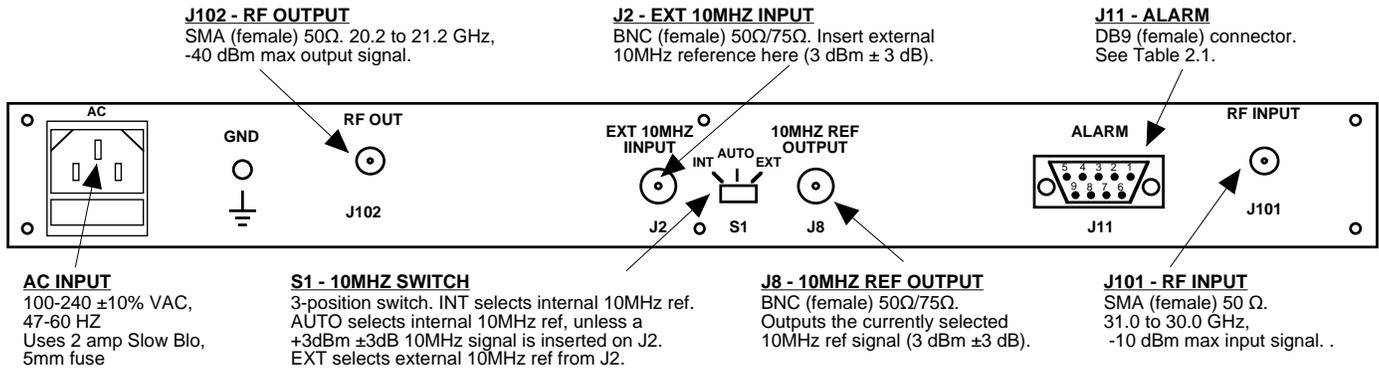

FIGURE 2.1 2116-310T212 Rear Panel I/O's
Figure 2.1 shows the input and output connectors on the rear panel.
1. Connect a -30 dBm to -10 dBm signal to RF INPUT (J101) (Figure 2.1).
5. Select either INT (for internal 10MHz ref), AUTO (for internal 10MHz reference UNLESS an external 10MHz, 3 dBm signal is connected to J2), or EXT (for external 10MHz, 3 dBm reference that is inserted at J2) using the rear panel 3-way switch, S1 (Figure 2.1).
7. Check that a 10MHz, 3 dBm \pm 3 dB signal is present at the 10MHZ REF OUTPUT (J8) (Figure 2.1).